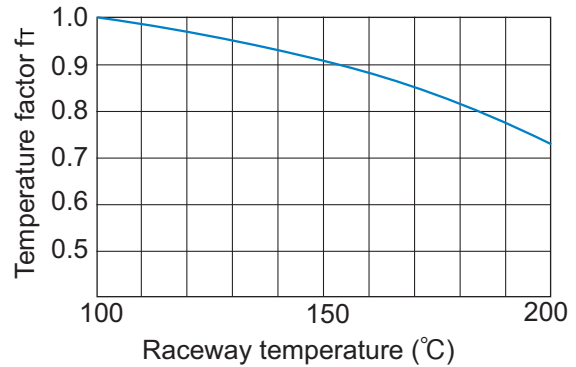

Fig.2 Temperature Factor (f_T)
- f_T : Temperature factor (see Fig.2 on A-577)
If the temperature of the environment surrounding the operating model VR or VB exceeds 100 °C, take into account the adverse effect of the high temperature and multiply the basic load ratings by the temperature factor indicated in Fig.2.